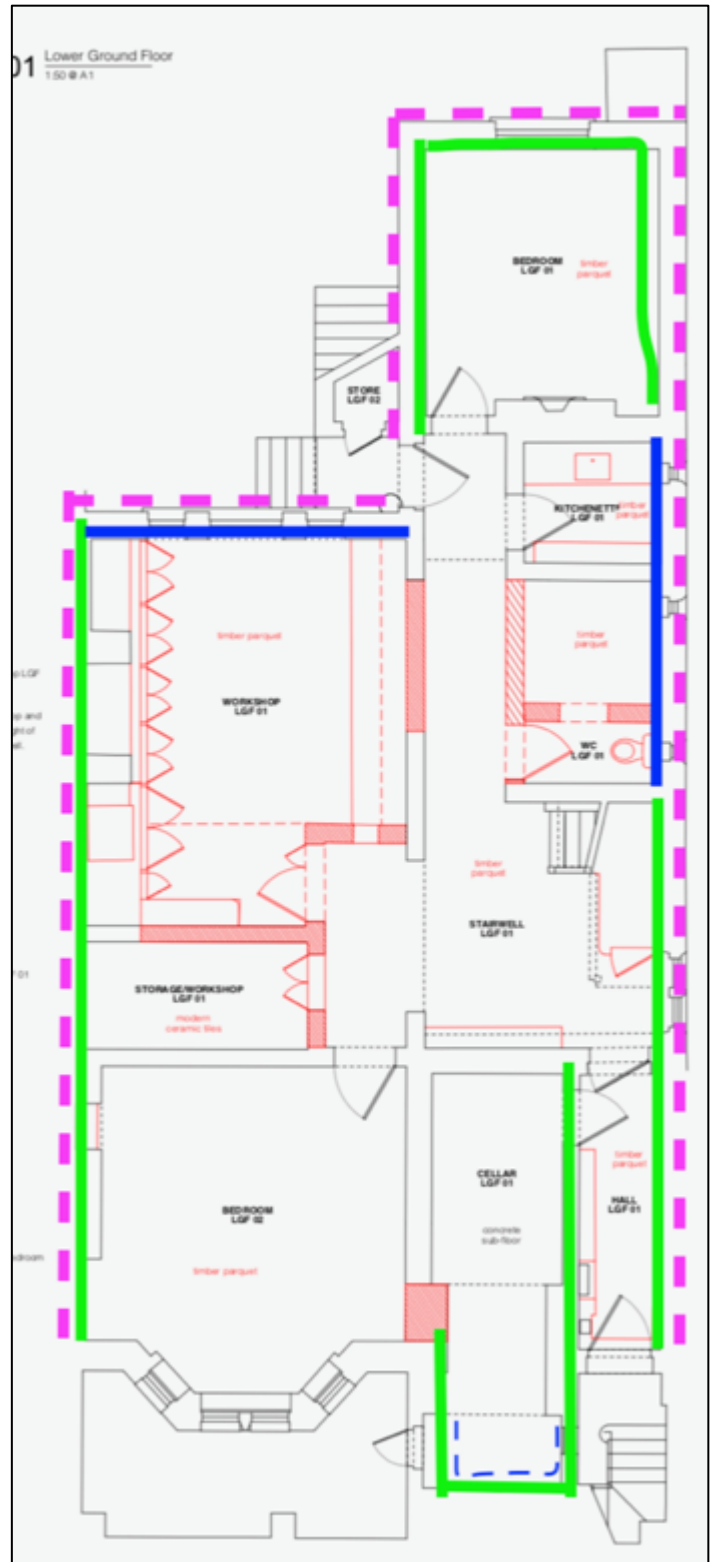

Figure 3: Proposed bespoke damp proofing solution
3) Basement damp proofing (please see fig.3)